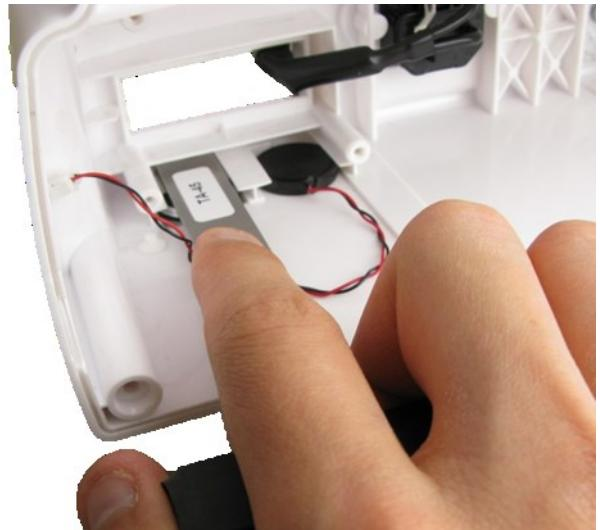

Fig. 76. Pulling out the Speaker
- to pull out the **Speaker (2)** use **TA-45** to pull the **Mounting plate (3)** as shown in Fig. 76.